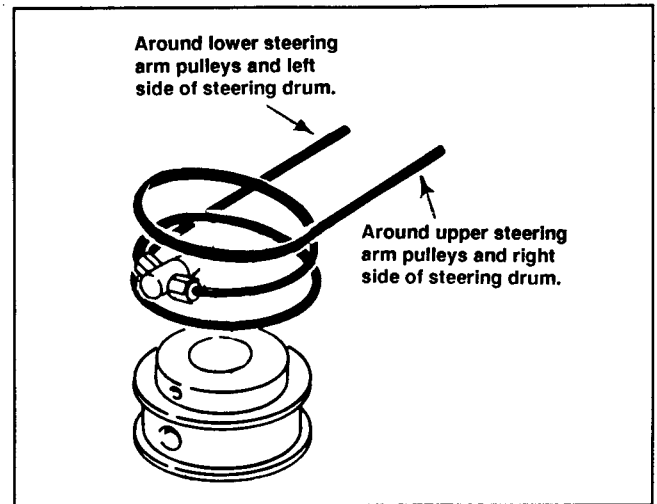

Figure 11
5. Fasten a 24 in. long piece of stiff (16 ga.) wire, to threaded cable end pulled out of steering arm in step 4. Insert and hold pin at center of cable in hole of steering wheel pulley. Push wire through steering arm to right of steering wheel pulley (Fig. 8). Right hand cable must wrap counterclockwise around pulley so it goes above pin in cable (Fig. 11). As wire is pushed into steering arm, make sure wire and cable go above pulleys inside middle of steering arm.
10. Left hand cable must wrap clockwise around steering wheel pulley so it goes below other cable and center pin (Fig. 11). Repeat steps 5 - 8 for this cable putting cable around lower set of pulleys and attaching to left side of steering drum.